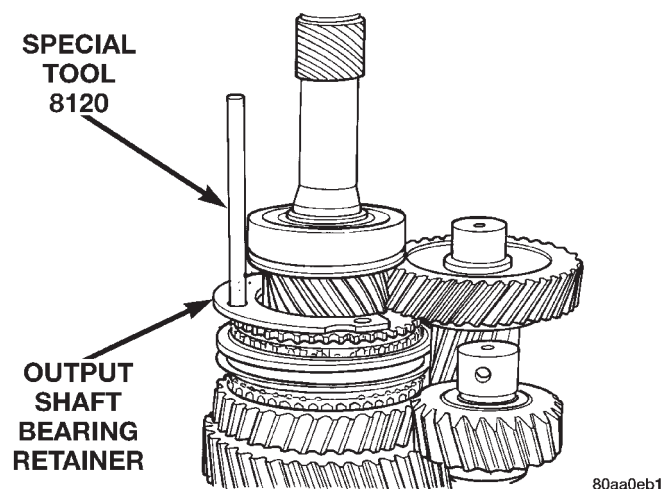

Fig. 91 Positioning Output Shaft Bearing Retainer For Rear Housing Installation
(11) On 2-wheel drive transmission, thread one Pilot Stud 8120 in center or passenger side hole of output shaft bearing retainer. Then position retainer on fifth gear as shown (Fig. 91).